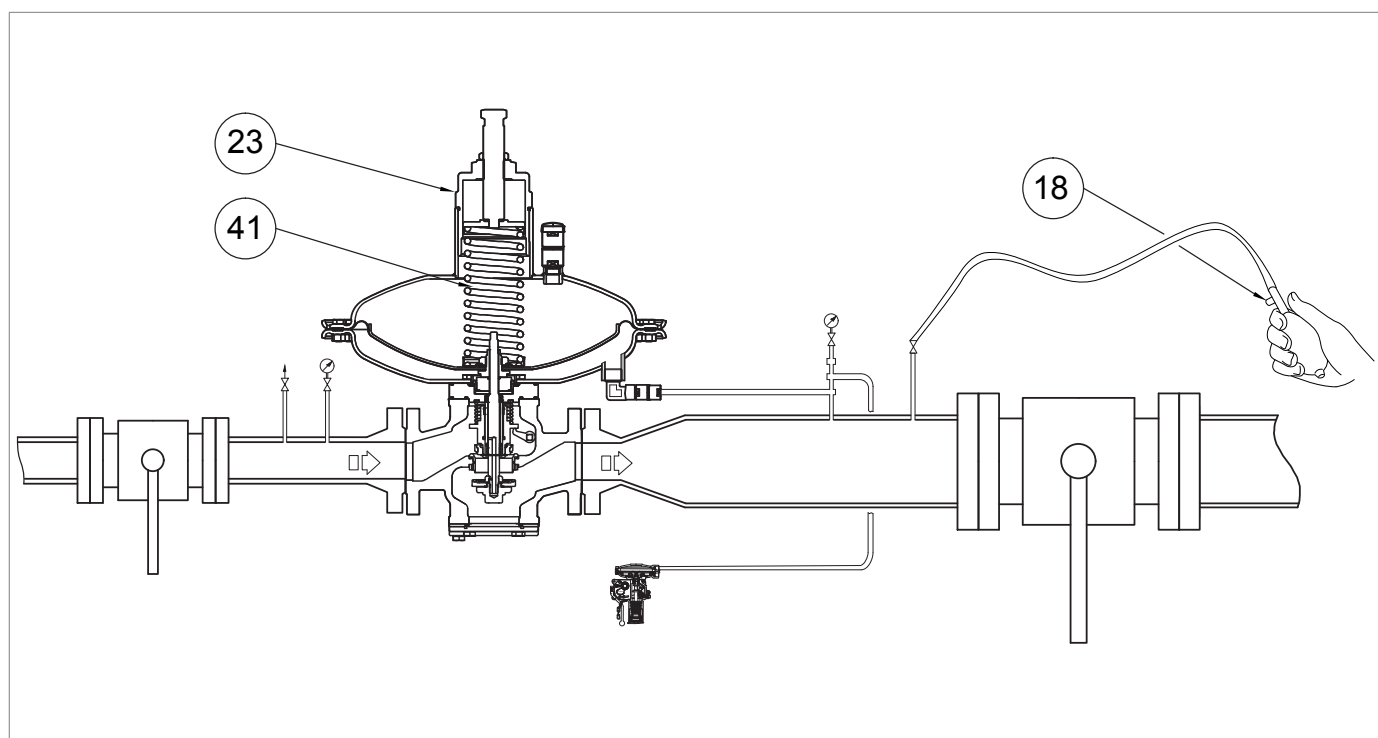

Fig. 8.24 - Pressurising with external source for incorporated SN slam-shut valve
3	If necessary, remove the closing cap (fig. 8.24, ref. 23) together with the adjustment screw and remove the regulation spring (fig. 8.24, ref. 41).  NOTICE! Check the tripping pressure value of the slam-shut valve indicated on the downstream pressure gauge (fig. 8.19, ref. 5).
5	After having checked that the slam-shut valve trips at the preset value, proceed as follows: - Close the bleed cock (fig. 8.19, ref. 6) - Position the regulation spring (fig. 8.24, ref. 41), the closing cap (fig. 8.24, ref. 23), and adjustment screw (fig. 8.19, ref. 3) - Slowly open the upstream shut-off valve (V1) until the downstream pressure value (Pd) reaches the calibration value of the regulator, referring to the downstream pressure gauge (fig. 8.19, ref. 5) - Close the upstream shut-off valve (V1) - Slowly and partially open the bleed cock (fig. 8.19, ref. 6) to decrease the downstream pressure referring to the downstream pressure gauge (fig. 8.19, ref. 5) until it reaches the minimum pressure tripping value - Check the minimum pressure spring for proper calibration by repeating steps 2-3-4 at least three times - Calibrate the main regulator referring to par. 8.5